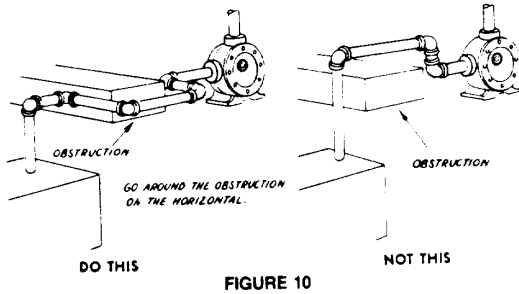

FIGURE 10
- When approaching an obstacle in the suction or discharge line, go around the obstacle instead of over it. Going over it creates an air Docket. See Figure 10.